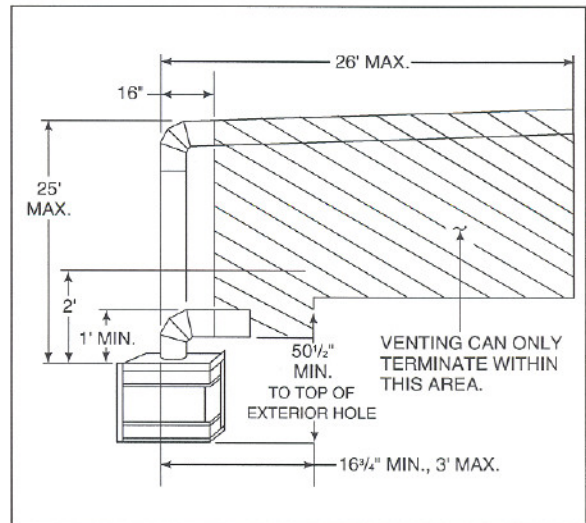

Figure 5
Minimum combustible clearances to the vent on a horizontal run is 3" on top and 1" on the bottom and sides. These clearances must be maintained at all times. The maximum horizontal run allowed for venting is 26 feet. The maximum vertical rise allowed for horizontal termination is 25 feet. See Figure 5.
4. Venting through the wall. Horizontal venting must terminate within the shaded area shown in Figure 5 on the previous page. For example, if your vertical rise is the minimum one foot, venting can terminate anywhere between 16 inches and 3 feet.